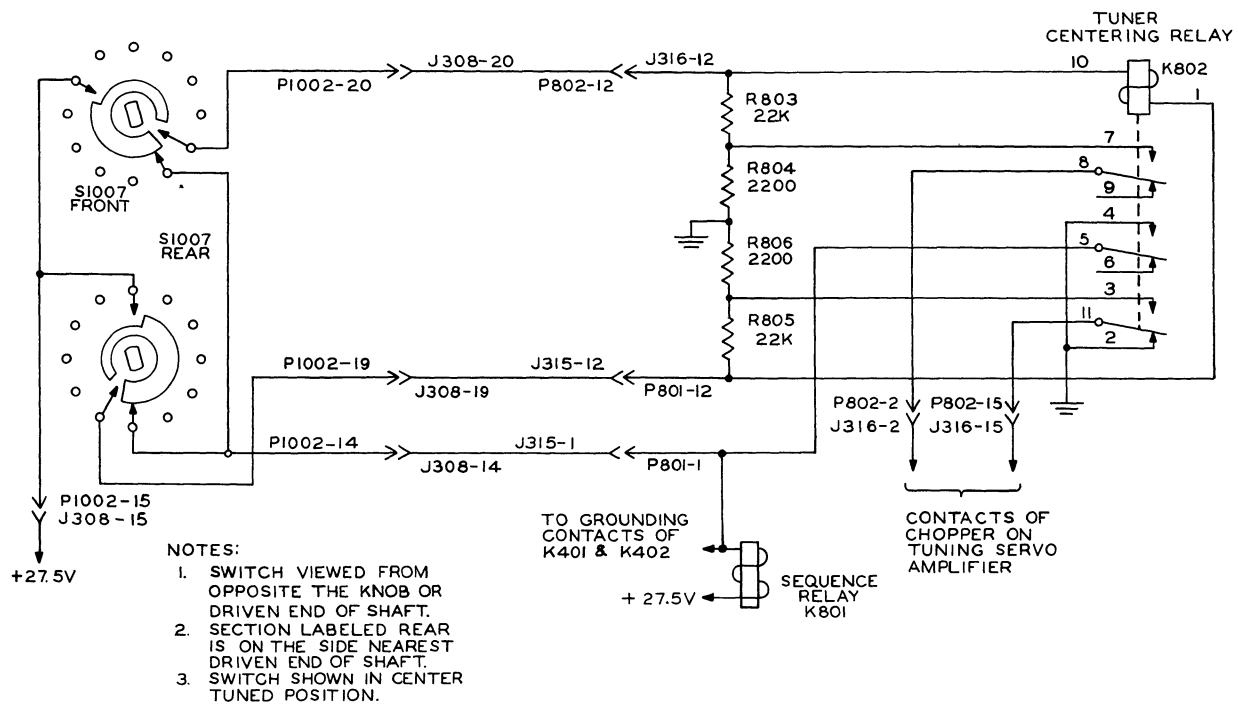

Figure 4-20. Tuner Unit, Table Centering Circuit, Simplified Schematic Diagram
4.9.3.5.1 TABLE CENTERING CIRCUIT. The table (or slug rack) centering circuit consists of switch S1007 in the tuner unit, relay K802 and associated resistors in the relay unit, contacts of relay K801 in the relay unit, and contacts of relays K401 and K402 in the r-f crystal oscillator unit. A simplified schematic is given in figure 4-20. The schematic shows the centering circuit operated to the position where the slug rack is centered. Under normal conditions the slug rack will be in some other position, and the rotor blades of switch S1007 will short a set of contacts on each switch section. Assume, for example, that the switch is rotated one position clockwise. A circuit now exists from the +27.5-volt supply through the front switch section, through the